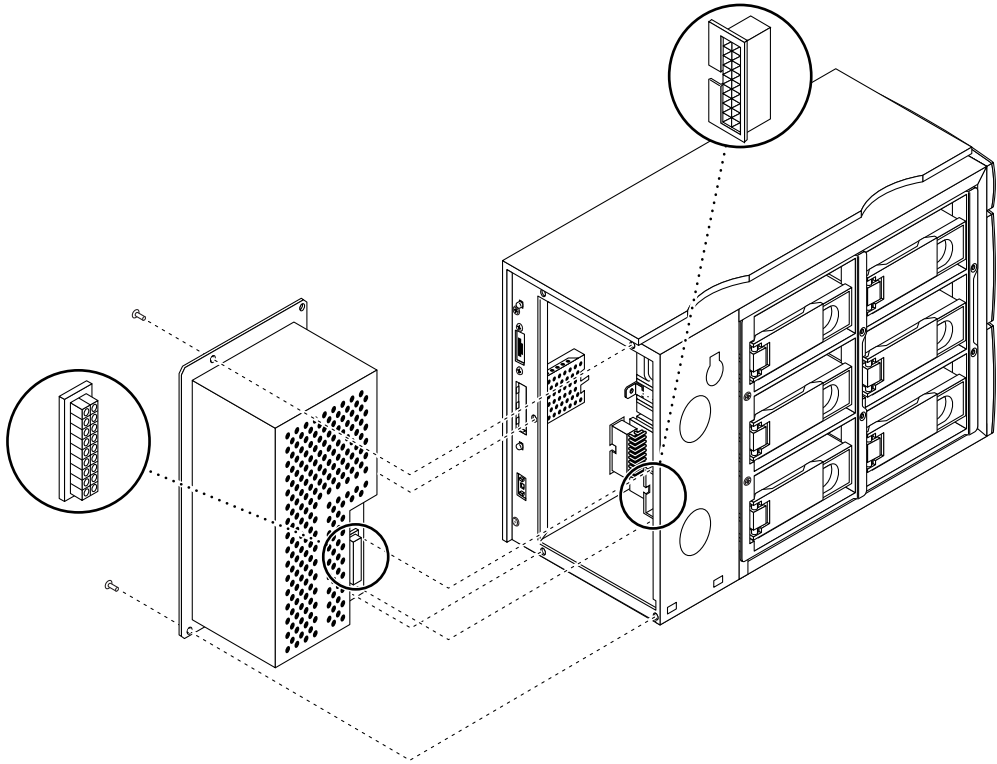

FIGURE 3-13 Replacing the Power Supply
1. Align the power supply at the back of the unit so that the connector on the power supply aligns with the connector on the daughter board (FIGURE 3-13).